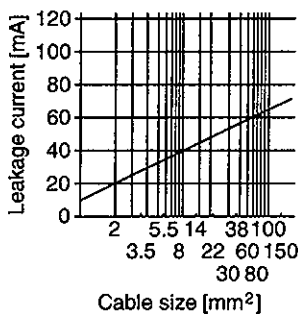

Fig.15.1 Leakage Current Example (Ig1,Ig2)for CV Cable Run in Metal Conduit
- Ig1: Leakage current on the electric channel from the leakage current breaker to the input terminals of the controller (Found from Fig. 15.1.)
- Ig2: Leakage current on the electric channel from the output terminals of the controller to the servo motor (Found from Fig. 15.1.)